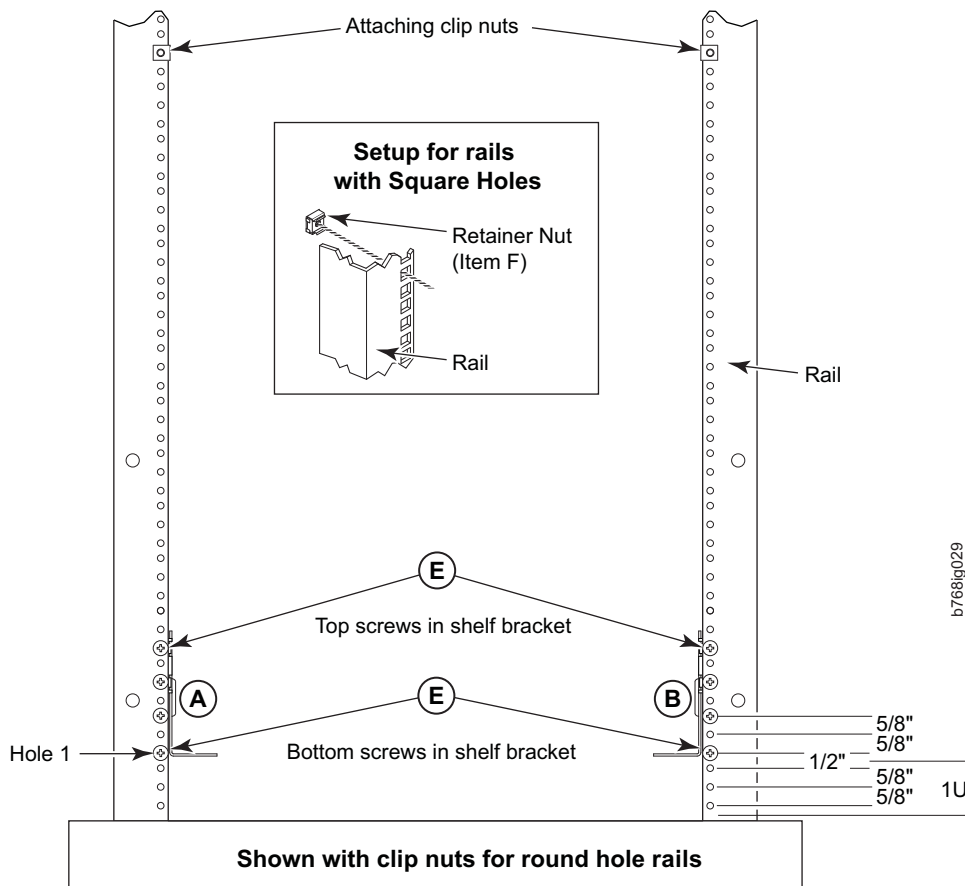
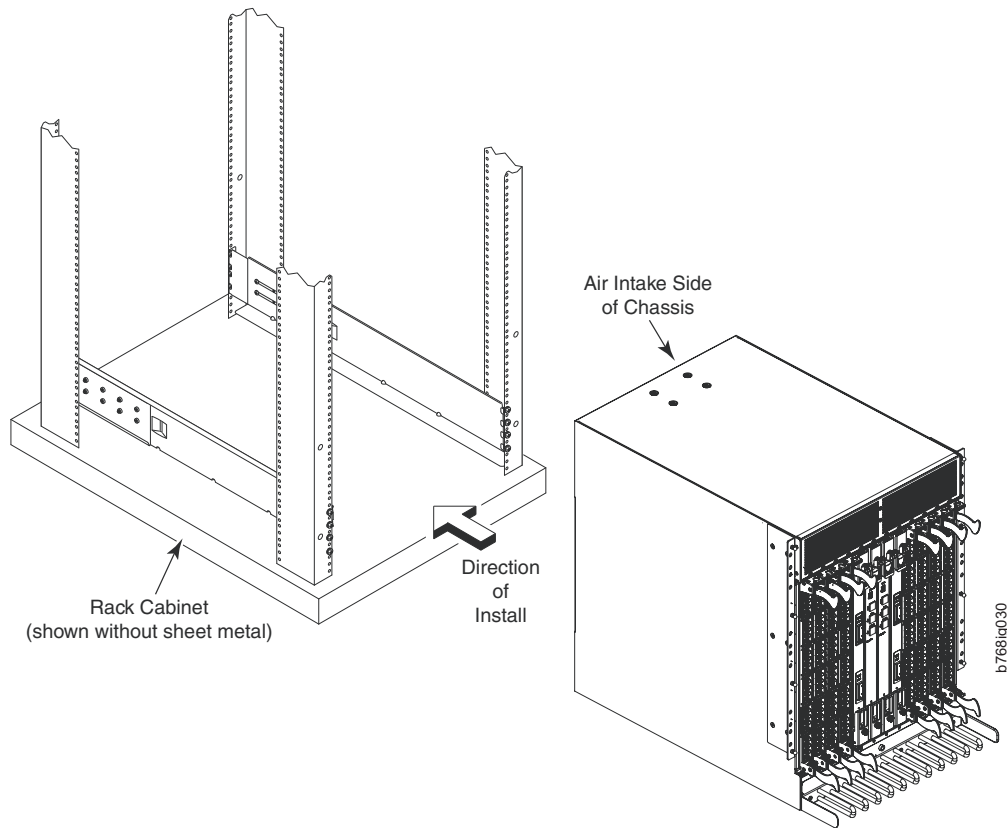

Figure 5. Installing clip or retainer nuts on the vertical cabinet rails
Figure 7. Chassis installation from rear (exhaust aisle side) of the cabinet
5. Attach the clip nuts **D** (for rails with round holes) or retainer nuts **F** (for rails with square holes) to the vertical rails on the exhaust aisle side of the cabinet (see Figure 5). These nuts are used for securing the port side of the chassis to the rack rails using 10-32 x 5/8-inch screws. Use three nuts on each rail. Place the nuts in optimum locations for securing the chassis to the rails. See Figure 7 on page 22 for approximate positions.
7. Move the lift tool to a position near the rear of the cabinet. See Figure 7 on page 22.